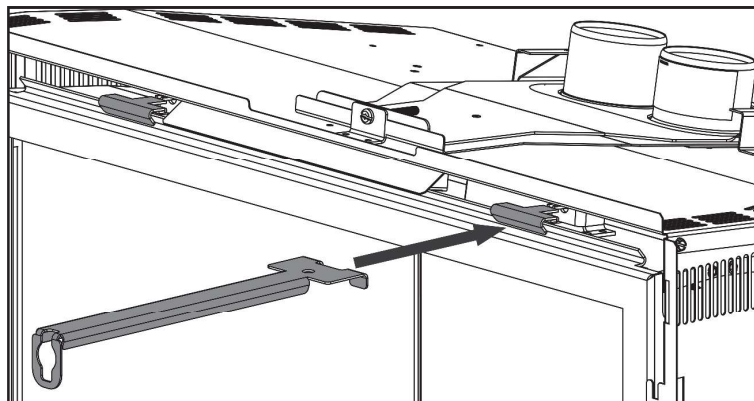

Fig. 2
2. Release the top left and right door latches, located at the top of the door (**Fig. 2**). Tilt forward and lift from slots.